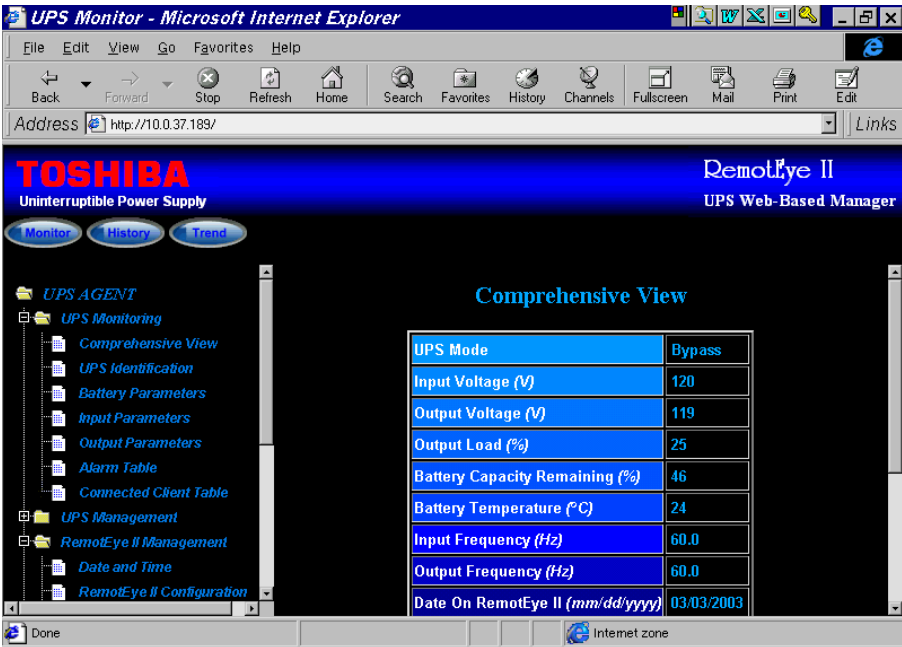

Figure 16: RemotEye II HTTP Page
4. Enter the URL for RemotEye II in the browser's address field. For example, `http://172.18.1.63`. The home page of the RemotEye II will be displayed once a connection is established (see Figure 16: RemotEye II HTTP Page on page 48).